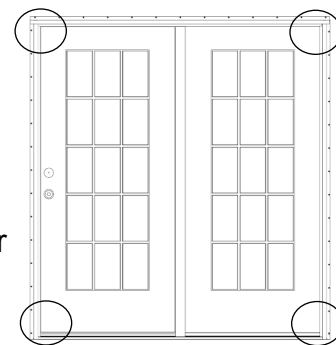

FIGURE 4
Install four (4) #8 x 1" wood attachment screws, one in each corner and check for proper fit of the unit (Figures 4, 4A). Refer to Step 12 if installing mounting screw cover.